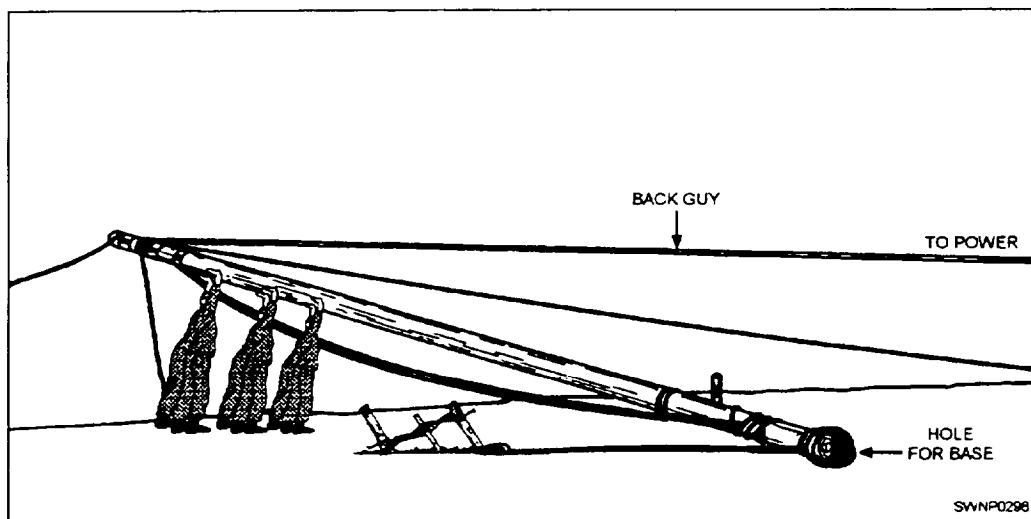

Figure 6-51.—Erecting a gin pole.
2. Erecting. A gin pole 40 feet long can be raised easily by hand, but longer poles must be raised by supplementary rigging or power equipment. Figure 6-51 shows a gin pole being erected. The number of men